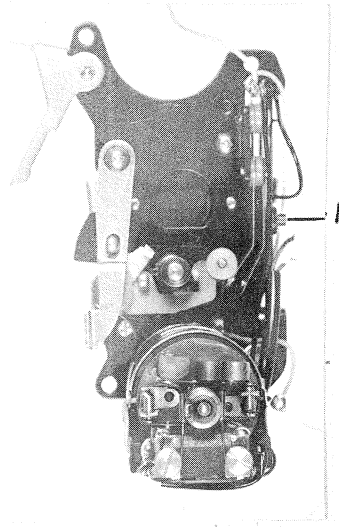

Fig. 47
- 11-2. Adjust the start switch adjusting screw shown in Fig. 47 (1) so that the start switch contact point is off and such that the contact point has a space of 0.2 to 0.3 mm.